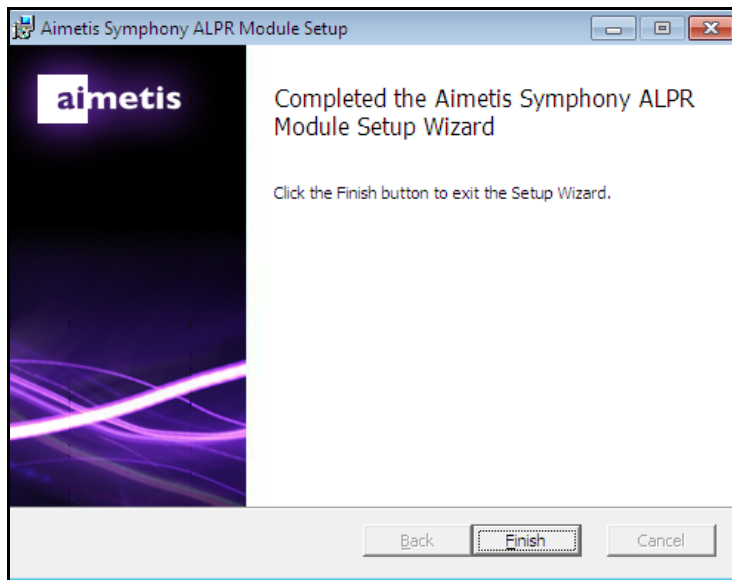

Figure 10. ALPR Module has completed installation
9. To exit the setup, click **Finish** (Figure 10 on page 16).